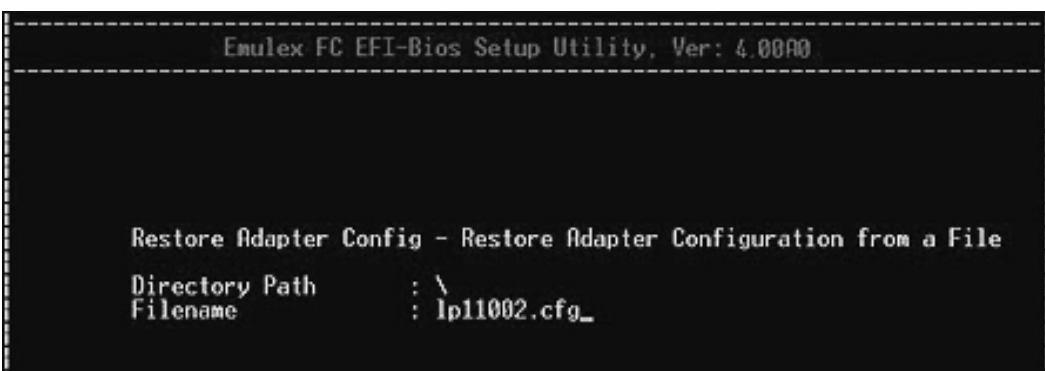

Figure 58: Read Configuration Path screen
- Select **2. Read Configuration From File**. The screen shown in Figure 58 prompts you to enter a directory path to the previously saved configuration file.